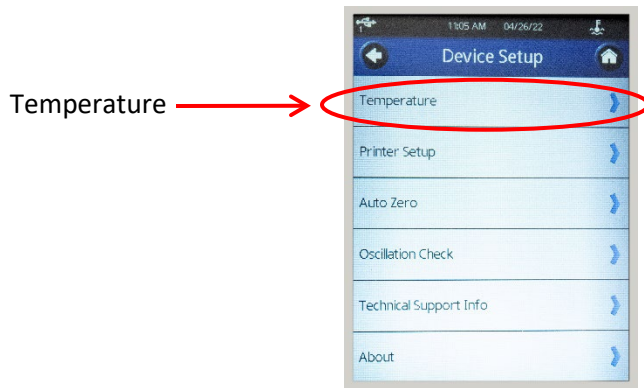

Figure 26: Device Setup Screen
14. Press the **Temperature** button. See Figure 26.